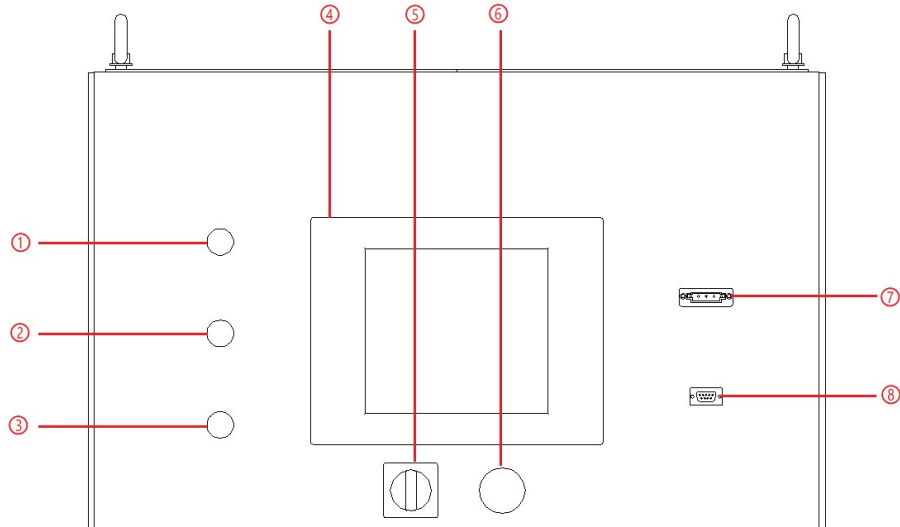

Figure 3-6
**Step 2:** Turn the power knob counterclockwise (Figure 3-6⑤).